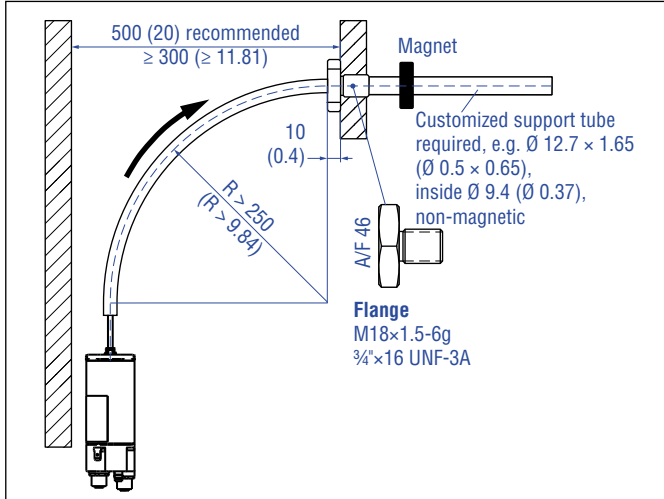

Fig. 24: Clearances for installation
1. Always insert the flexible sensor rod in a support tube (e.g. pressure rod HD / HL / HP or HFP profile). The support tube with an inside diameter of 9.4 mm (0.37 in.) consists of non-magnetic material. The support tube can be straight or bent (note the bending radius in Fig. 24).
3. Note the minimum distance to a spatial limitation of 300 mm (11.81 in.), when mounting / dismantling the sensor (Fig. 24).